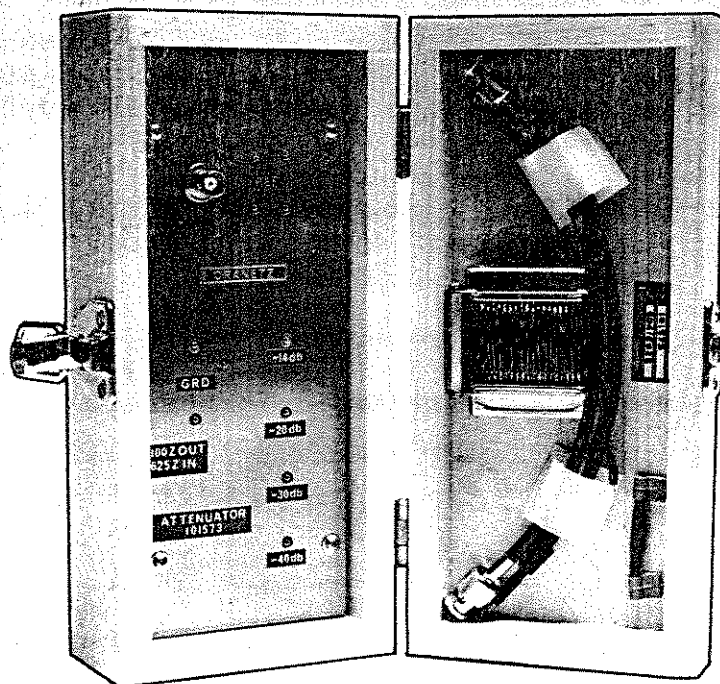

Figure 6-2. High Frequency Attenuator Dranetz Assembly #101,573
- d. High Frequency attenuator (100 ohms Z out, 600 ohms Z in; 0, 14, 20, and 40 dB). (See figure 6-2.)